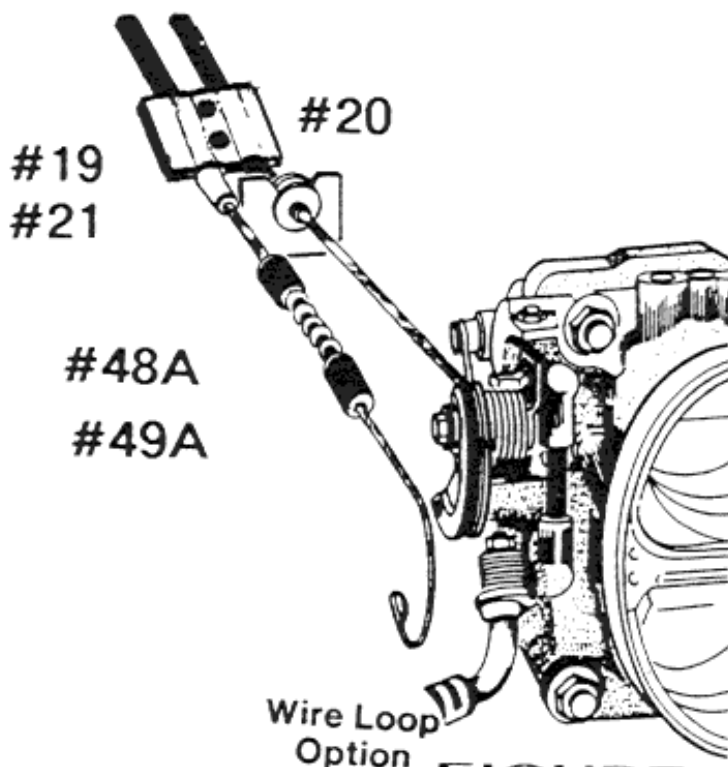

FIGURE 5
1. The end of the servo throttle cable housing **must** be securely anchored. Allow no flexing or movement of cable housing at that point. (See Figure 5,6,7).
With some vehicles, it may be necessary to remove the air cleaner so the throttle pulley is accessible. Rotate the pulley, with the engine OFF, to the full wide open throttle position and partially slide the existing throttle wire barrel from the pulley. Holding the wire loop (P/N 47A or 48) provided in hardware kit 2, slide this loop over the end of the vehicles throttle cable end barrel, and reinsert. Attach bead chain from servo cable to end of wire loop (P/N 47A or 48) and remove all slack. Then secure servo throttle cable using in most cases the provided parallel clamp (P/N 20). (See Figure 5).